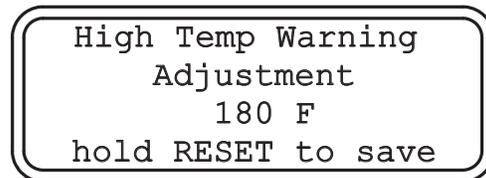

Figure 21 - High Temperature Adjustment
- High Temperature Adjustment (see Figure 21)